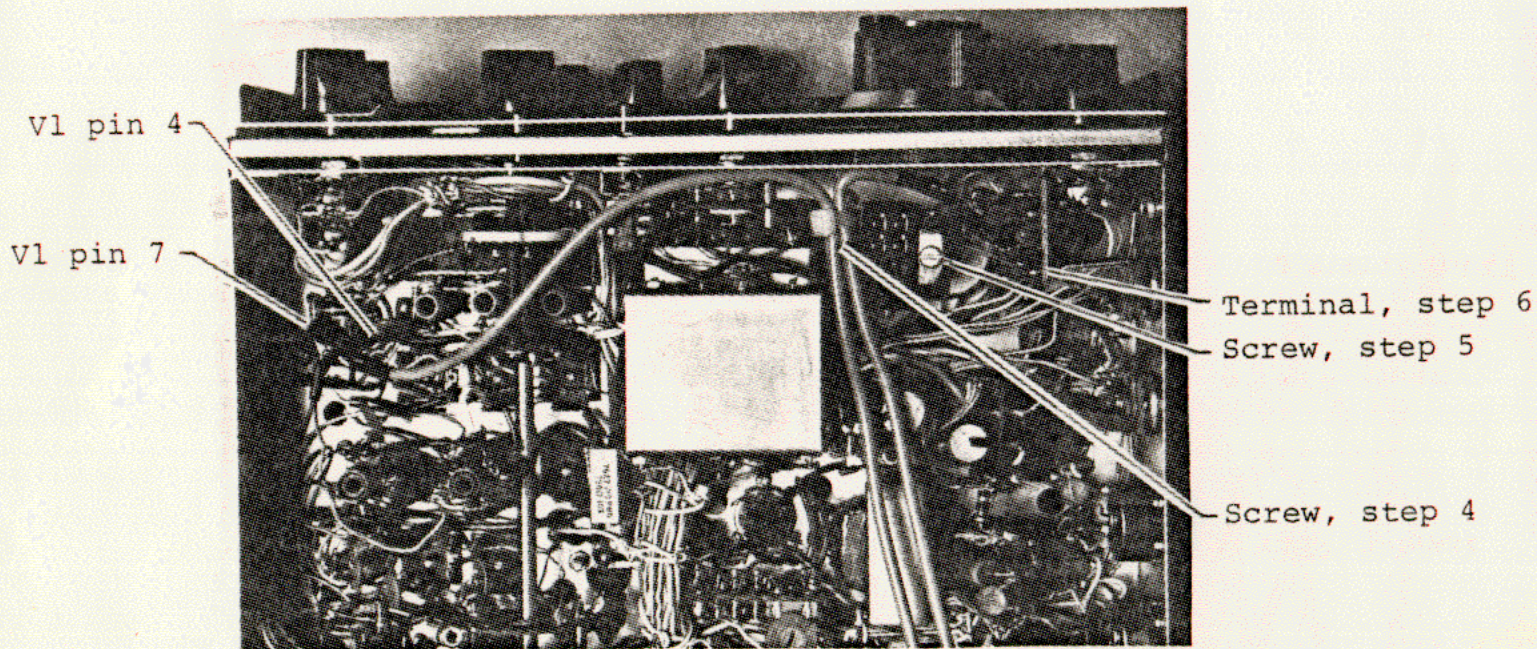

FIGURE 1 - Bottom of typical transceiver (TR-4cw)
1. Place a soft cloth over your workbench top and turn your transceiver upside down with the controls facing you (See Figure 1).
4. Remove the long screw from the right of the VFO, ACCESSORY JACK in the transceiver, insert it through the plastic anchor and replace it. Dress the cables as shown in Figure 1 before tightening the screw.